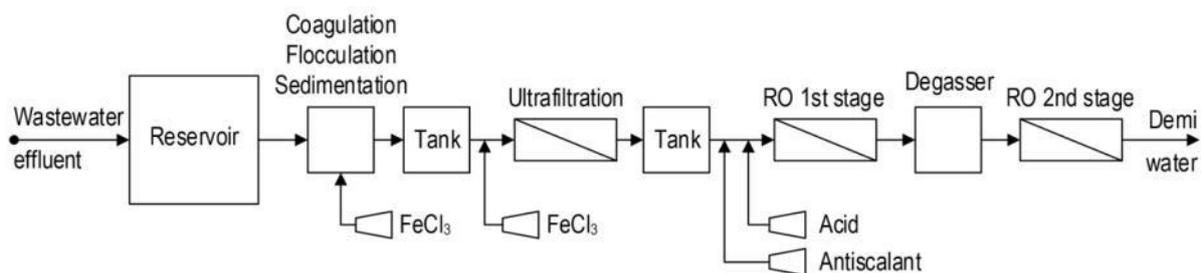

FIGURE S1.1: Schematic representation of RO plant location I (Sas van Gent, The Netherlands).
The plant (Figure S1.1) produces demineralized water, with conductivity less than  $10 \mu\text{S cm}^{-1}$ , from secondary wastewater effluent from the food industry. First, the secondary wastewater effluent is pre-treated with coagulation, flocculation, sedimentation process with ferric chloride ( $\text{FeCl}_3$ ) ( $2.5 \text{ mg L}^{-1}$ ), prior to ultrafiltration (UF). Hydrochloric acid (HCl) (pH 7.2) and antiscalant (Genesys LF) ( $1.78 \text{ mg L}^{-1} - 3.68 \text{ mg L}^{-1}$ ) are dosed to the UF permeate to prevent scaling in the RO membrane elements. Between the first and second stage of the RO membrane system, the water is degassed.